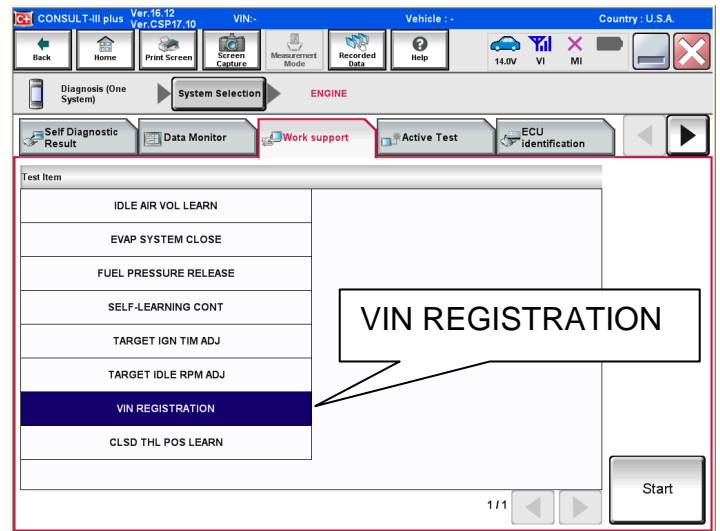

Figure 6
- a. Select “Diagnosis (One System)”, “ENGINE”, “Work support” and “VIN REGISTRATION”. See Figure 6.